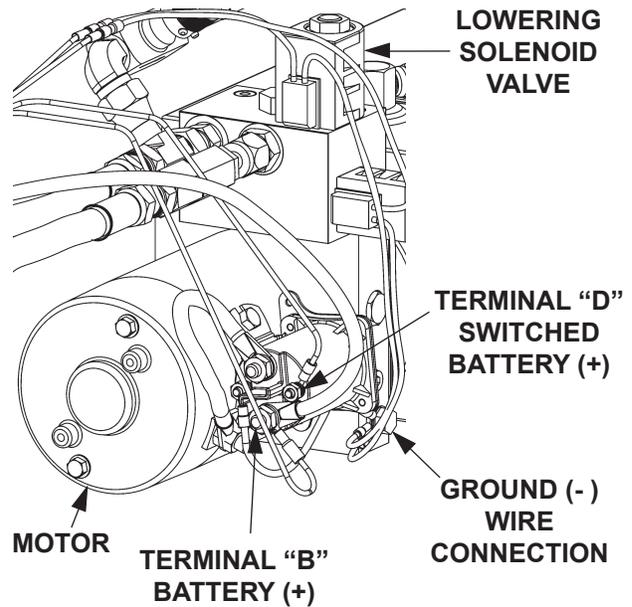

FIG. 54-1
1. Connect voltmeter between motor solenoid terminal “B” and ground wires connection on pump (FIG. 54-1). Verify that battery power is getting to “B”. Recharge the battery if voltmeter indicates less than 12.6 volts dc.
3. Check if lowering solenoid valve is getting power. Connect voltmeter between ground (-) wires connection on pump and terminal “B” (FIG. 54-1). Push control switch to **DOWN** position to energize lowering solenoid. If voltmeter reads battery voltage (+12.6 volts dc minimum), control circuit is operating correctly (replace lowering solenoid). If voltmeter reads 0 volts, check if toggle switch and wiring are faulty.